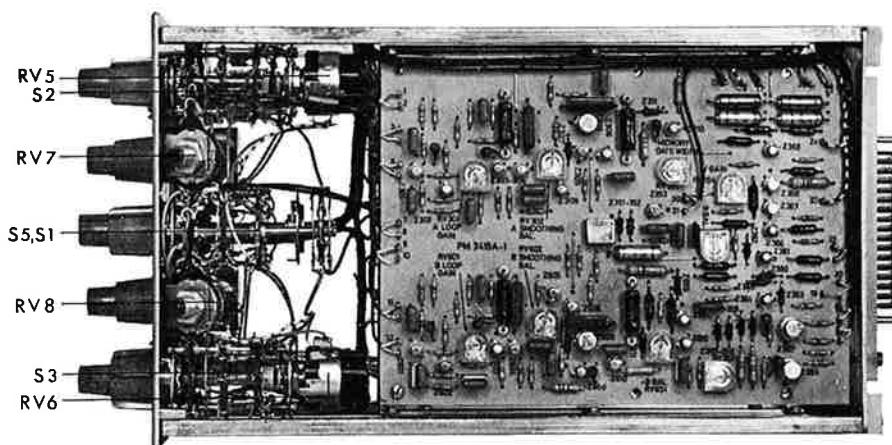

Fig. 5. Top view
- Adjust B CAL, RV8 (fig. 5), to obtain $8 \text{ cm} \pm 0.1$ of horizontal deflection.
- Adjust A CAL, RV7 (fig. 5), to obtain $8 \text{ cm} \pm 0.1$ of vertical deflection.